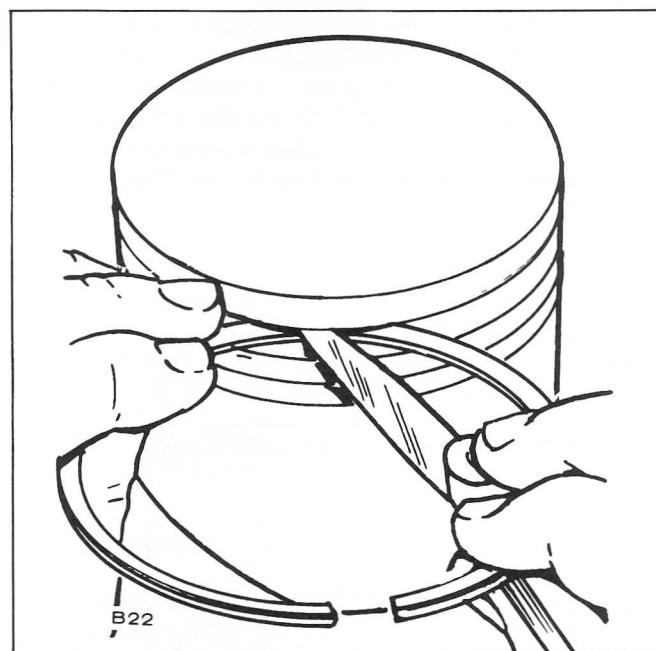

FIGURE 24. CHECKING RING SIDE CLEARANCE
- a. Inspect the pistons for fractures at the ring lands, skirts and pin bosses. Check for wear at the ring lands using a new ring and feeler gauge as shown in Figure 24. Replace the piston when the side clearance of the top compression ring reaches 0.004" (0.10 mm) on B43M and B48M; 0.008" (0.20 mm) on BF and CCKA.